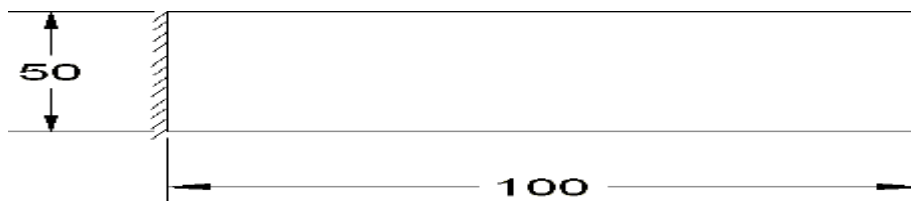

**Figure 2**
2. Determine the nodal deflections, reaction forces, and stress for the cantilever beam shown in Figure 2 and find the maximum deflection. Assume rectangular c/s area of  $0.2 \text{ m} * 0.3 \text{ m}$ , Young's modulus of  $210 \text{ GPa}$ , Poisson's ratio  $0.27$ .(An)